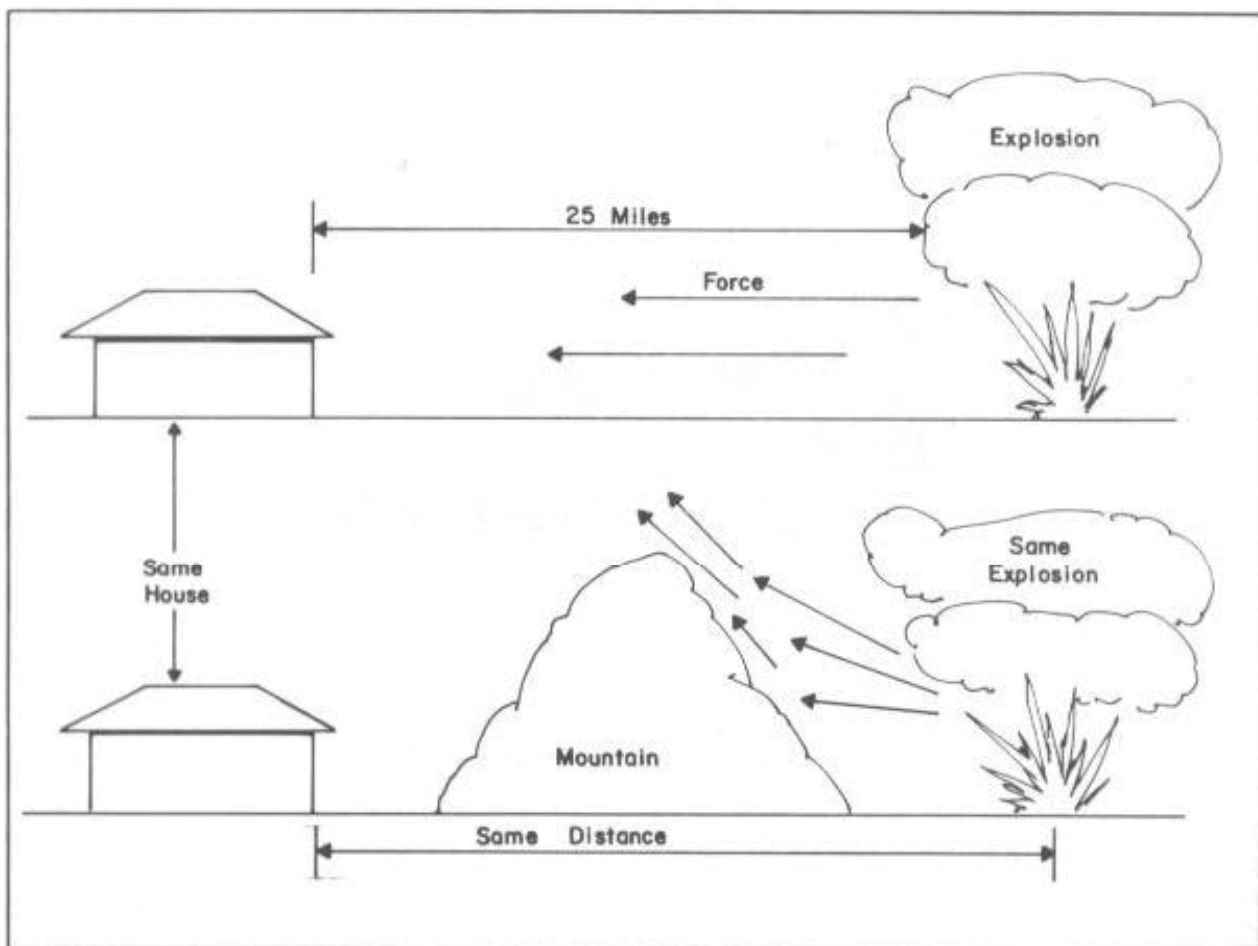

Fig. 25-1. Once you realize the variable that could protect or expose your structure, it is easy to see how precise answers are difficult.
*How safe would underground homes be in case of a major explosion? Naturally it depends on how close you are talking about, and how strong the destructive force. No one could calculate exactly what would happen to any structure. Wind direction and velocity, the topography, the temperature, and plant growth are only a few things that would greatly effect your chances of survival. See Fig. 25-1.*